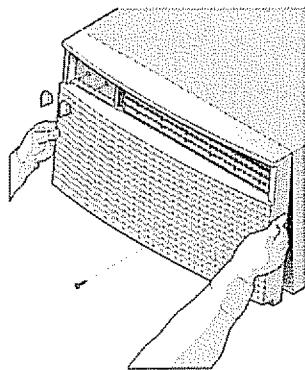
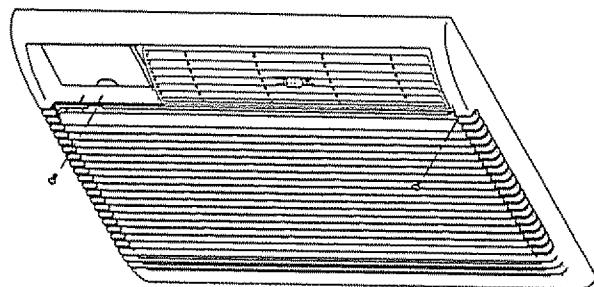

FIG. 1
FIG. 2
- Install front retaining screw(s) at the bottom of the front (Fig. 1), or behind the filter handle (Fig. 2).